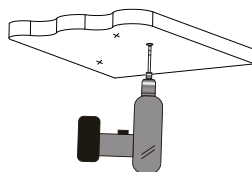

Fig.5
- Step4 Install the product on the place where you marked (as Fig.5)